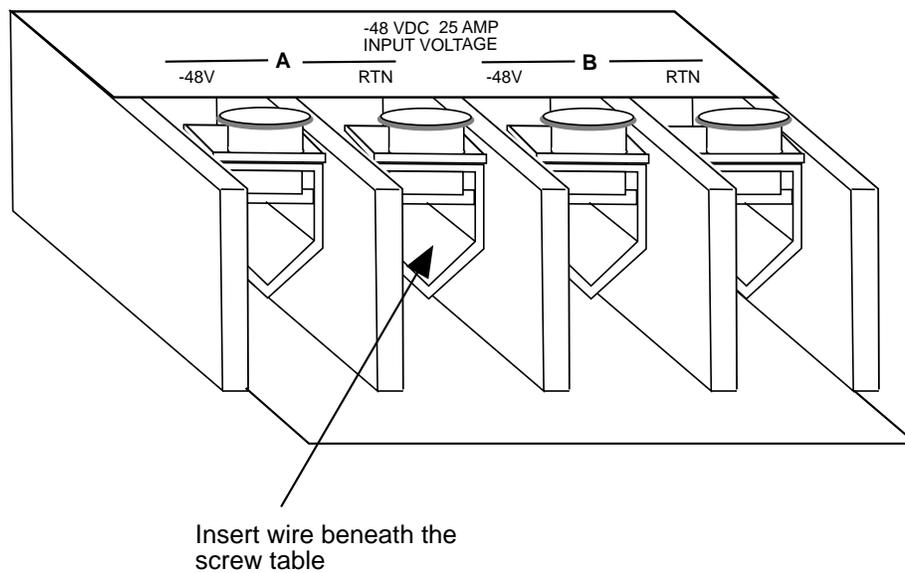

Figure 3-6. DC Power Feed Termination Block
3. Connect the CO -48 DC lines to the unit. The terminals are labeled for -48 DC and return (see Figure 3-6).